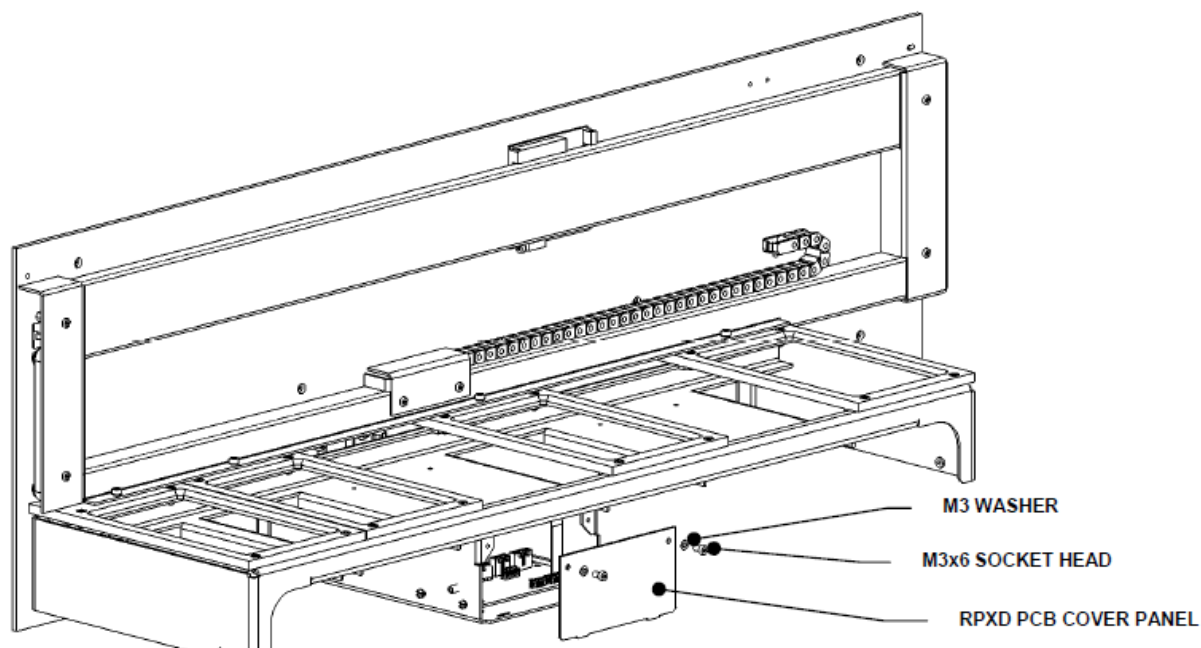

Figure Q-2: Removing the Reagent Pipettor X Drive PCB Cover Panel
1. Remove the Reagent Pipettor X Drive PCB Cover Panel by removing the two M3x6 Socket Cap Head Screws (Figure Q-2).